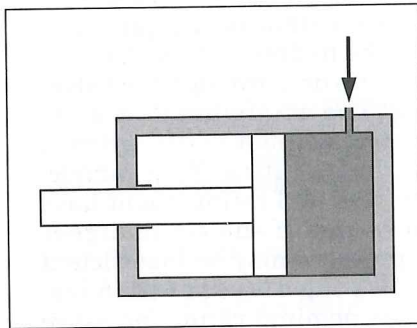

Fig. 9-17 — Single-acting cylinders provide power only to extend the rod.
**Single-acting cylinders.** The simplest type of cylinder, Fig. 9-17, powers a stroke in only one direction. When the fluid is allowed to drain from the cylinder, some external force, such as gravity, must push the piston back to its starting position.